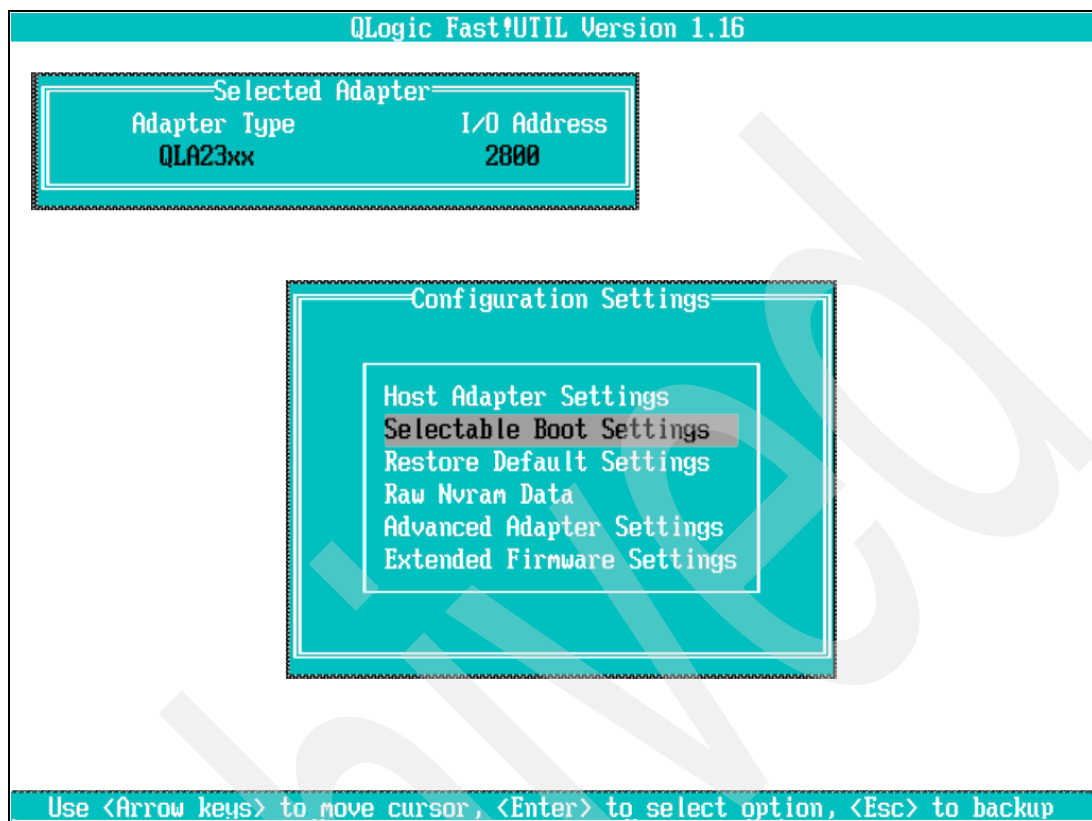

Figure 27-38 Selectable Boot Settings menu option for second HBA
4. Exit this menu and **Selectable Boot Settings** from the main Configuration Settings window, as shown in Figure 27-38.